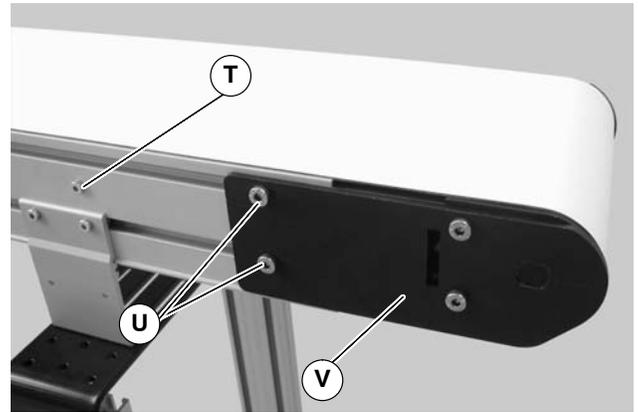
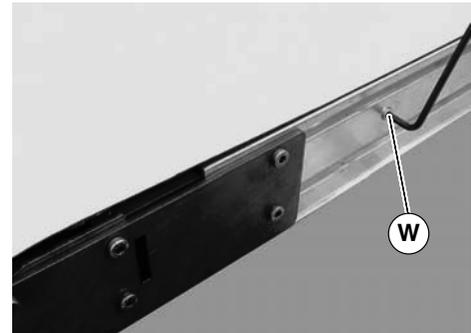

Figure 22
Figure 23
- On tension end of the conveyor, identified by the pinion locking screw (T of Figure 22), push in head plate assembly (V): Loosen the pinion locking screw
(T), adjust the pinion torque screw (W of Figure 23). On both sides of conveyor, loosen the two tail clamp bolts (U of Figure 22), and push head plate assembly (V) inward.